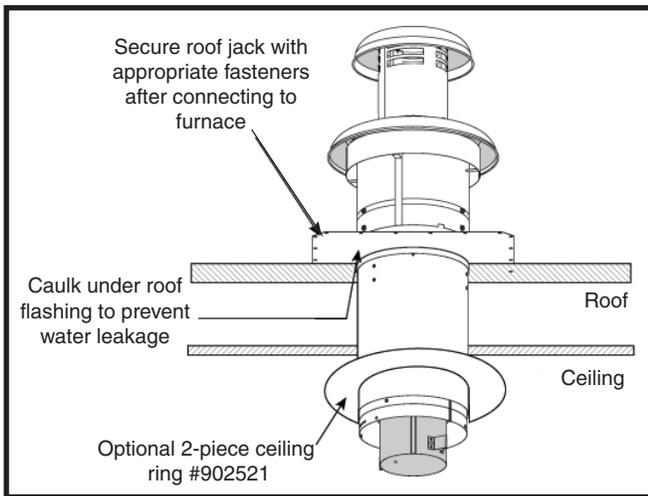
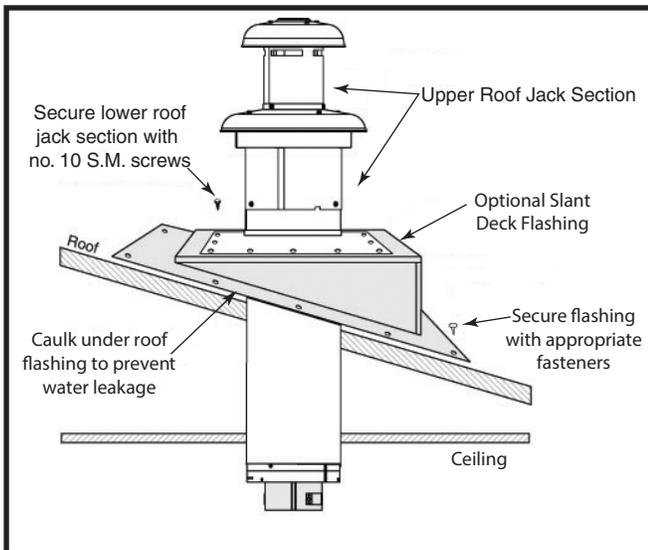

Figure 21. Flat Roof
Figure 22. Pitched Roof
1. Apply caulking compound on underside of roof flashing to form a continuous strip at least 3/8" wide around the underside of the perimeter of the flashing. For flat roof, see Figure 21 or see Figure 22 if roof is pitched.